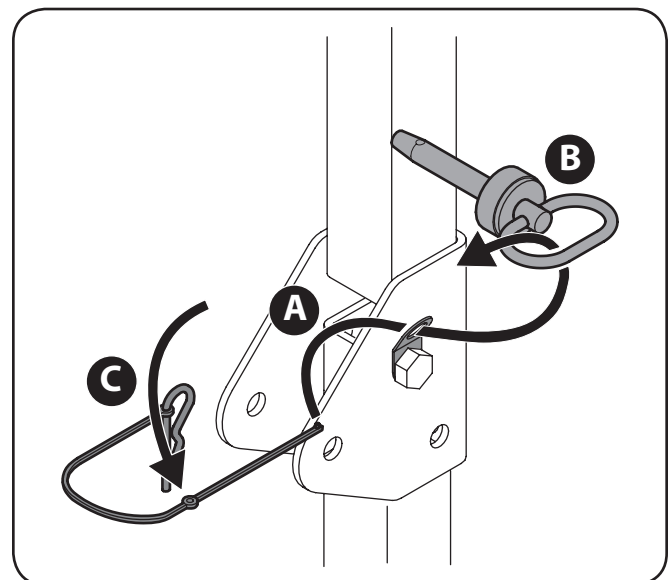

Figure 3-5
7. Route the nylon lanyard as shown in Figure 3-5. Be sure to secure the lanyard to the retaining clip and clevis pin.